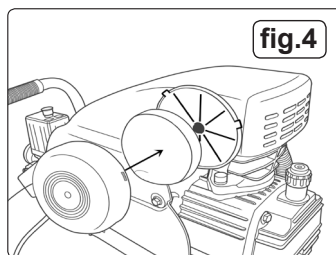

fig.4
- 3.6. Fit the air filter into the inlet port if required (fig.4).
- b) Remove the filter element (fig.4) and clean by blowing through with an air line at low pressure, from the clean side. Alternatively, wash in soapy water, rinse and dry. Do not operate the compressor without the filter as foreign bodies or dust could seriously damage the pump.